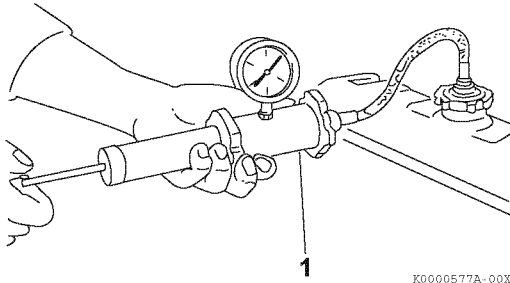

Figure 8-3
1. With the radiator properly filled, install a cooling system tester (**Figure 8-3, (1)**).